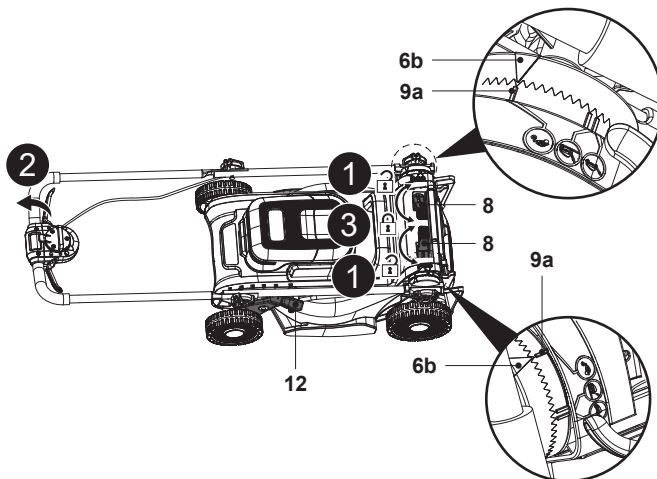

Fig. 23
1. Switch the machine off and remove the battery pack (24) before storage.
- Remove the grass catcher (7) / mulching insert (23).
- Loosen two clamp levers (8), then completely fold the handle assembly (Fig. 23, steps 1, 2).
- Secure the connections by locking the two clamp levers (8) and ensure that the indicating triangle (6b) is aligned with parking indicator (9a) to avoid scattering (Fig. 23, step 3).
- It's recommended to store the mower with the grass catcher (7) hooked on the mower and the mulching insert (23) installed in the mower (Fig. 23).